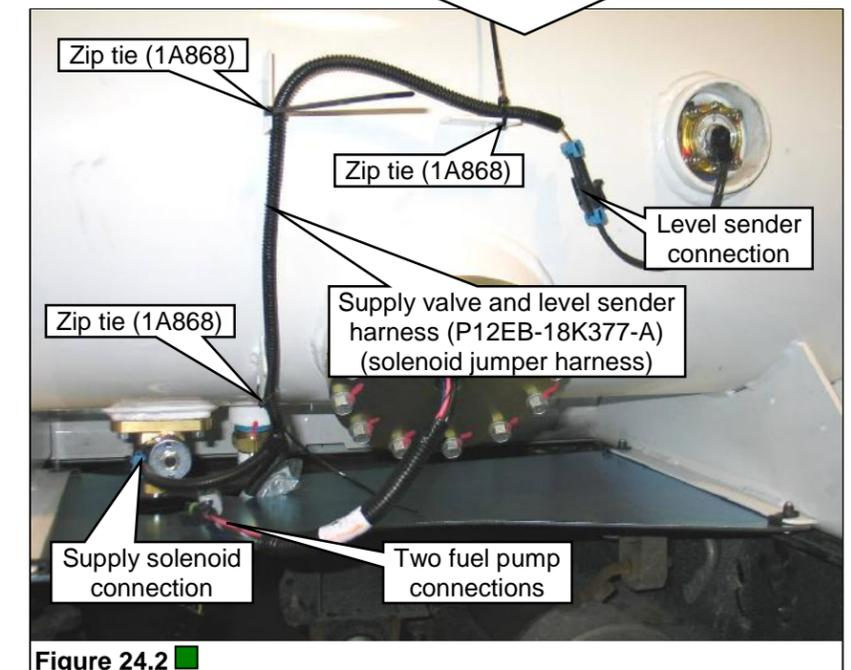

Figure 24.2 ■
10. Install supply valve and level sender harness (solenoid harness P12EB-18K377-B) across the tank. Plug in the electrical connectors for the fuel level sender and the fuel supply solenoid. Secure the solenoid harness to the three weld tabs on the side of the tank using zip ties. **Figure 24.2.**